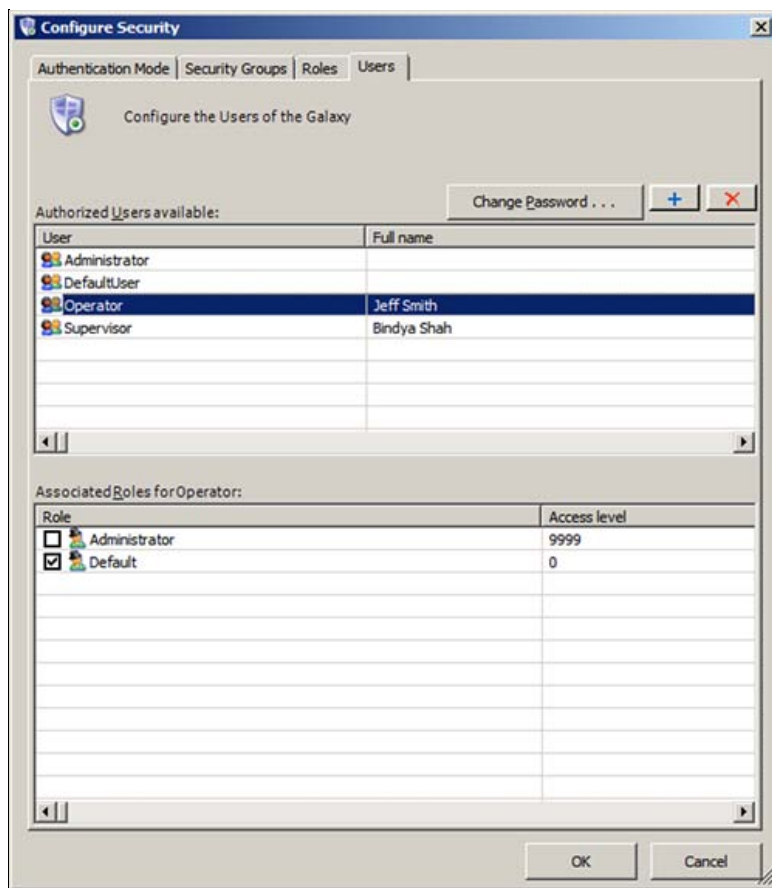

FIGURE 1: ADD OPERATOR AND SUPERVISOR USERS
6. Add two users. One user is an Operator and the other is a Supervisor (Figure 1 below).